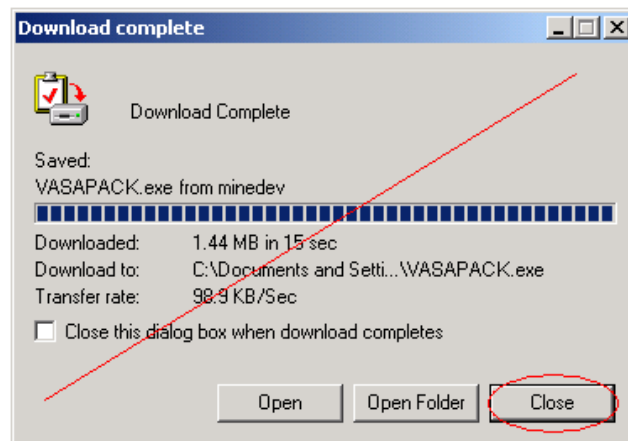

Figure 6: Download complete window
Step 6: You may see a window similar to figure 6 while the computer downloads the file. If so, when the progress bar is complete, click once on **Close**. If there is an error during the download, then return to step 1.